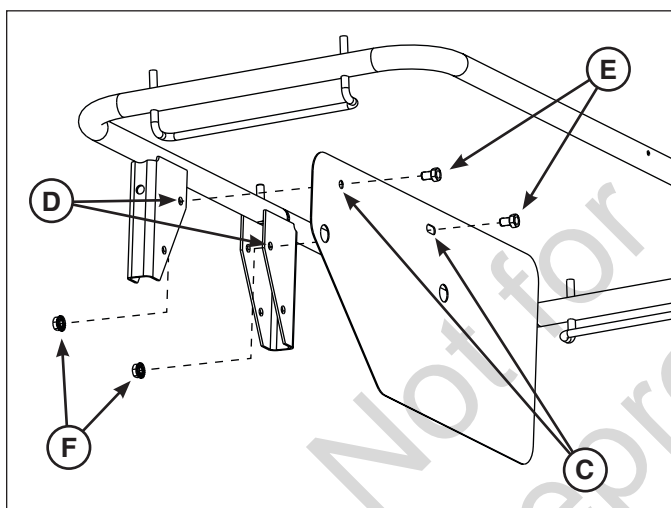

Figure 8 (Components removed for clarity)
2. Align the top holes in the heat shield (C, Figure 8, manual drive orientation shown) with the top holes in the catcher frame brackets (D).
3. Secure the heat shield to the catcher frame with two 5/16 x 1/2 hex bolts (E) and flange nuts (F). Tighten securely.